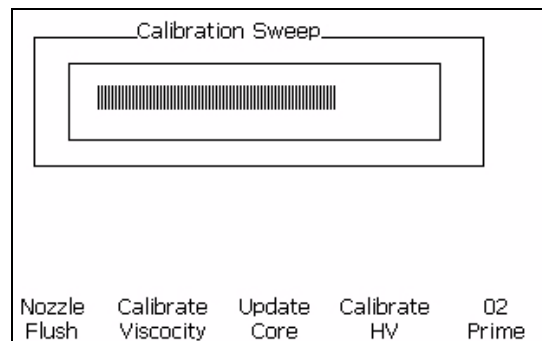

Figure 4-47: Calibration Sweep
- 3 Calibration sweep occurs. Refer to Figure 4-47.